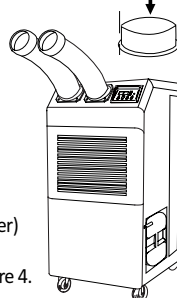

Figure 5
3. Use screws (enclosed inside of box with the top fan exhaust flange) to install the top fan exhaust flange on air conditioner as shown in Figure 5.